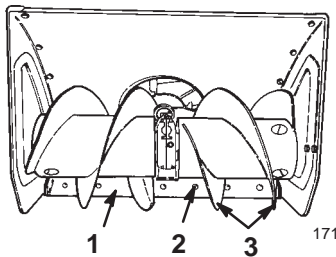

Figure 27
6. Support the **auger blades** so that they are at least 1/8 inch (3 millimeters) off the ground (Fig. 27).
8. To adjust the scraper, loosen the carriage bolts that secure the scraper to the auger housing (Fig. 27), level the scraper, and tighten the carriage bolts.